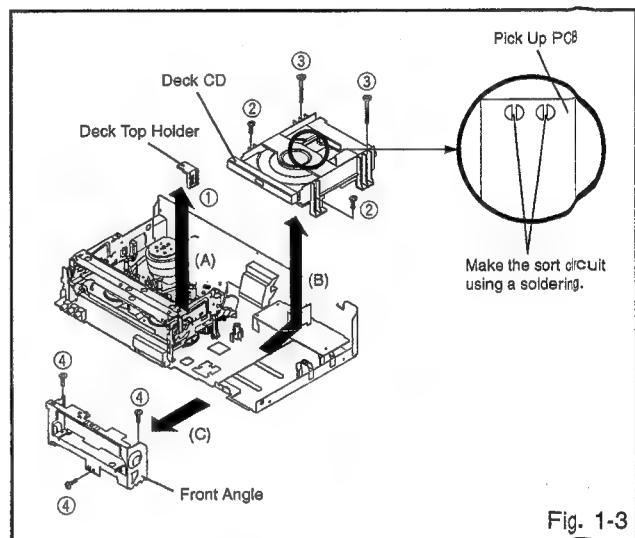

Fig. 1-3
1-3: DECK CD (Refer to Fig. 1-3)
1. Make the short circuit on the position as shown Fig. 1-3 using a soldering. If you remove the Deck CD without soldering, the Laser may be damaged.
2. Unlock the support ① and remove the Deck Top Holder in the direction of arrow (A).
3. Remove the 2 screws ②.
4. Remove the 2 screws ③.
6. Remove the Deck CD in the direction of arrow (B).
7. Remove the 3 screws ④.
8. Remove the Front Angle in the direction of arrow (C).